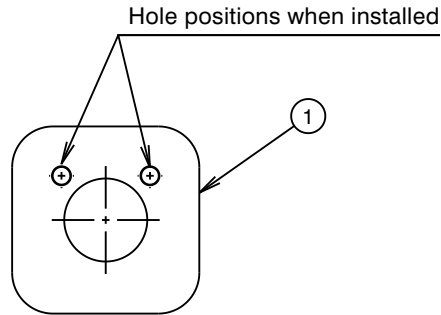

Fig. 3
- 2) Locate the cover plate (1) on the threaded nipple (2) and align the top edge of the cover plate horizontally with the holes as shown (Fig.3). Screw the adaptor (3) onto the threaded nipple (2) using a 10mm allen key (5) until the cover plate (1) is held securely against the wall/tile face. **DO NOT OVERTIGHTEN.** Apply suitable lubricant to 'O'Rings on adaptor (3).